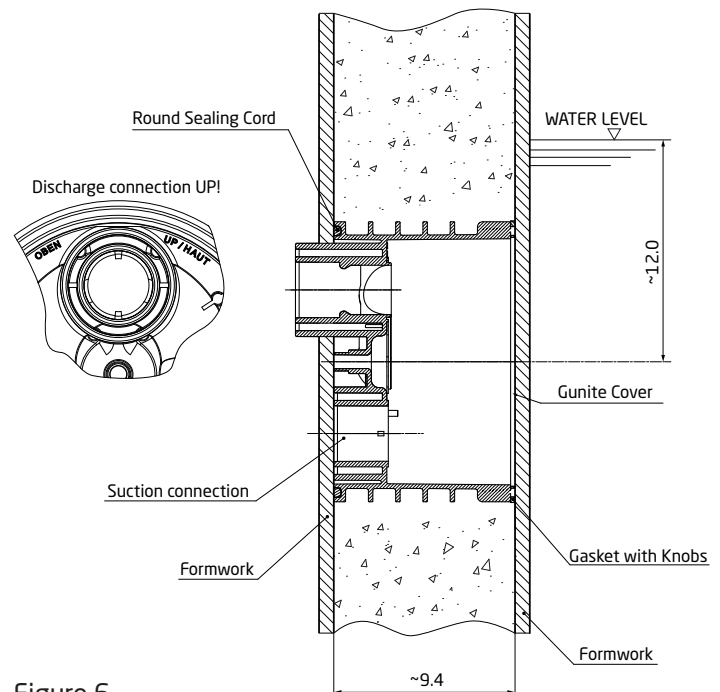

Figure 6
- Place the jet housing between the steel rebar with the back of the jet housing against the hole in the outer wall formwork. Jet housing location is very important (See Figure 6).
- Place the jet housing between the steel rebar. Jet housing location is very important (See Figure 6).